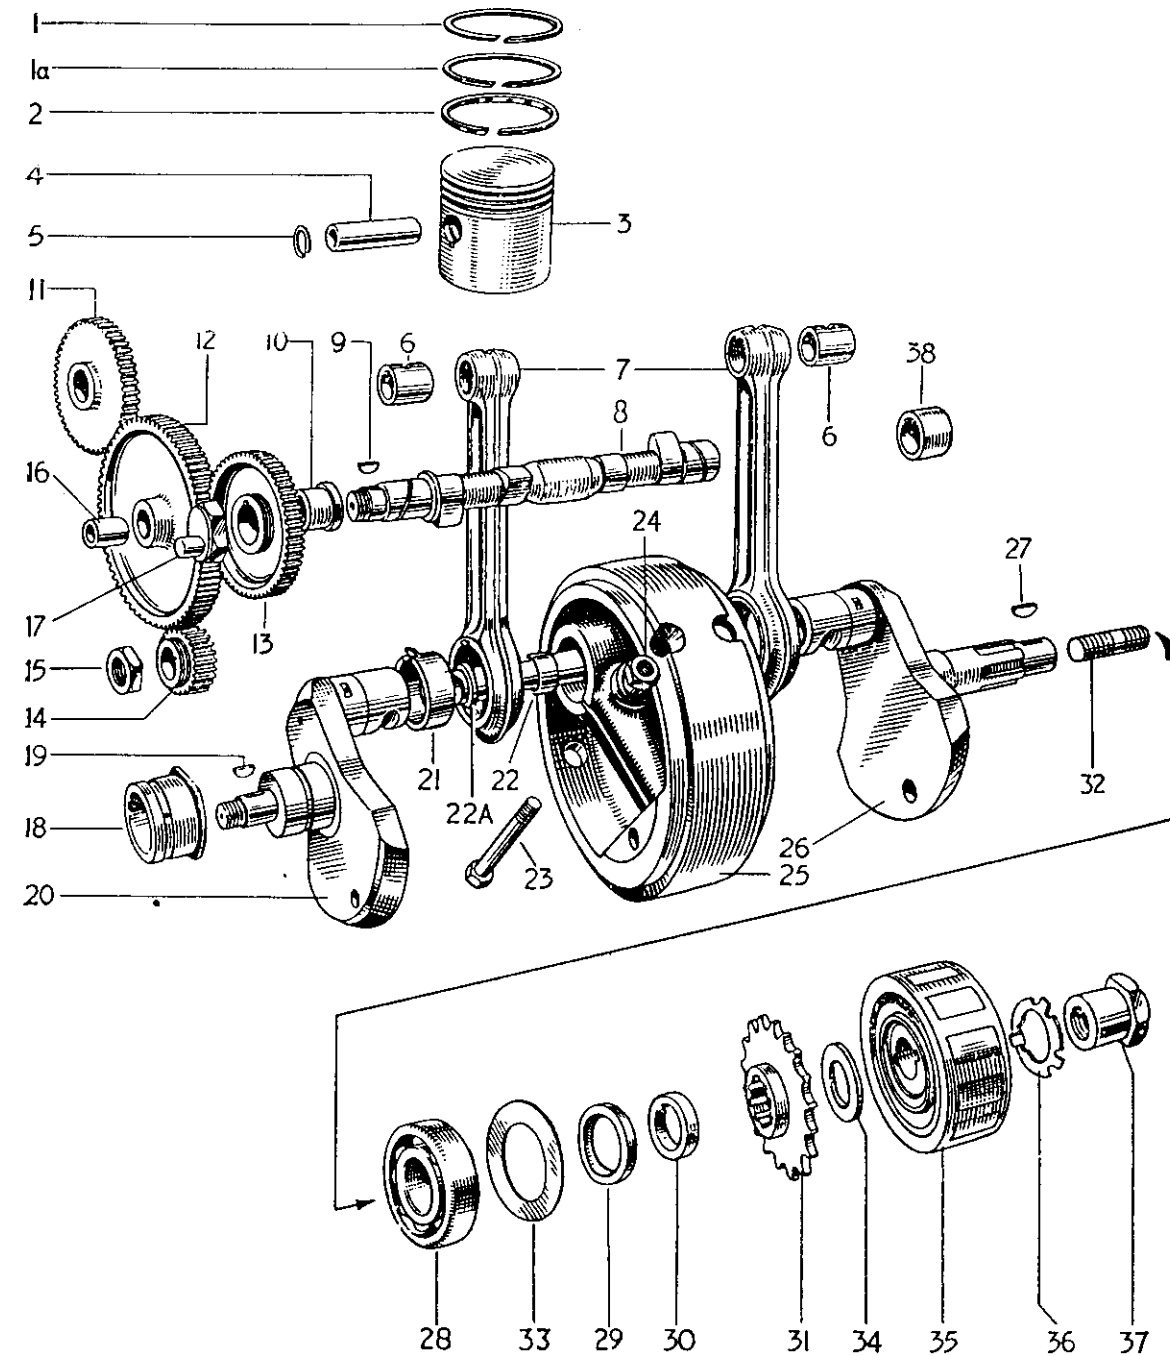

Fig. 1. Crankshaft Assembly.
INDEX TO FIG. 1.
3. The balanced two throw crankshaft and flywheel assembly is built up complete with connecting rods. The "H" section connecting rods are forged from RR.56 Hiduminium alloy and have separate pressed in bearings:—steel shells lined with white metal in the big ends and phosphor bronze bushes in the small ends. The crankshafts are 3% nickel steel case hardened stampings, and are pressed into the flywheel which is a mild steel stamping, with the connecting rods in position. The whole assembly is bolted together with two 55 ton heat treated alloy steel bolts. (See Fig. 1).
4. (1) The cylinder block of the Mk. 1 and 2 is made of aluminium alloy DTD.324 and has high expansion cast iron valve seats, cast in position. The special cast iron cylinder liners are a press fit in the block. This cylinder block is interchangeable with the cast iron block.